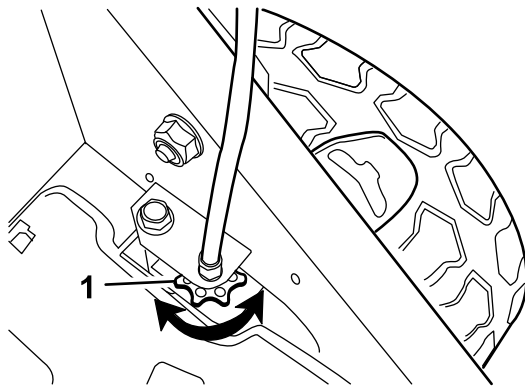

Figure 24
knob (Figure 24) clockwise 1 turn and repeat steps 4 through 6.
- If the wheels spin before you fully engage the self-propel-drive bar, the traction belt is too tight. Rotate the wheel-drive-control knob (Figure 24) counterclockwise 1 turn and repeat steps 4 through 6.